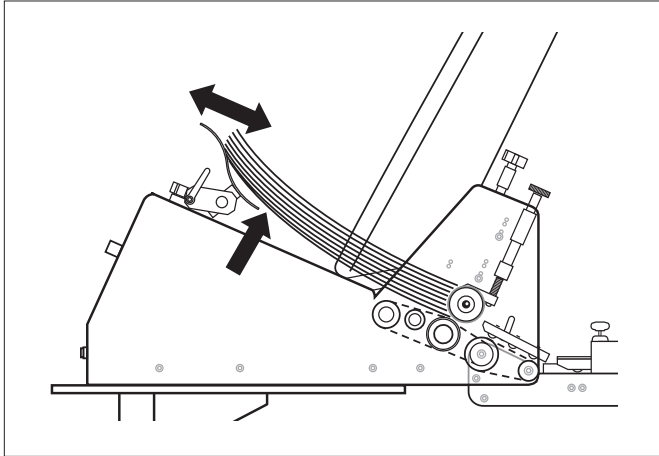
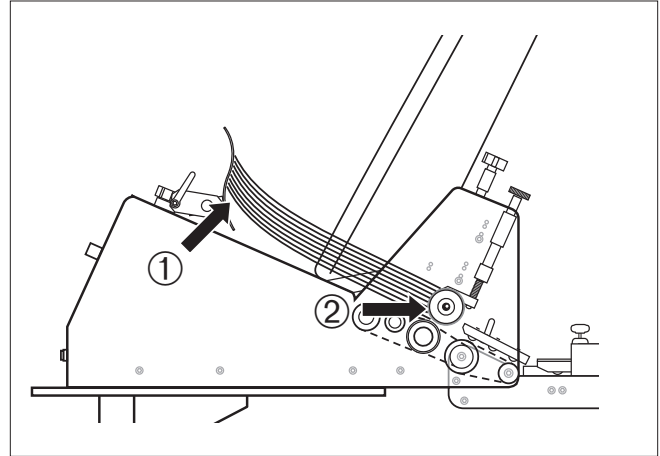

Figure 12. Adjusting Back Wedge Distance
Figure 13. Tilting Back Wedge
4. Move the back wedge forward and backward until the bottom envelope is not touching the table top (Figure 12). A good starting point is to measure about 1/16 inch (1.6 mm) from the bottom envelope to front edge of table top. Then as you test, you can fine tune from this point. *You can fine-tune the back wedge location by loosening the roller swivel wing-nut to pivot the rollers back and forth (Figure 13, ①) while still keeping the envelopes against the curvature of the gate assembly (Figure 13, ②).*